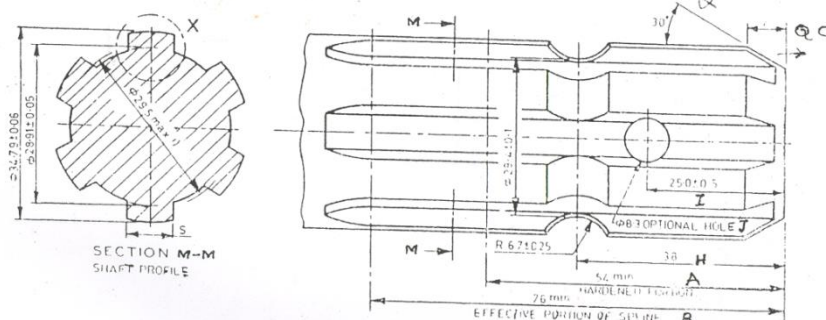

Fig. 2: Dimensions of Implement Power Input Shaft, mm
9.1	Dimensions of Splined end of pinion shaft, mm (Refer Fig. 2)